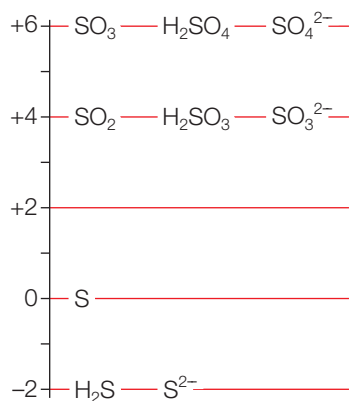

Figure 15.2▲
Most elements in the p block and d block of the periodic table form compounds in which their atoms have different oxidation states. Displaying the compounds of an element on an oxidation state diagram provides a 'map' of its chemistry and shows the different oxidation numbers that it can have. Figure 15.2 shows such a map for sulfur.
- Which sulfur compounds in Figure 15.2 can:
- Draw a chart similar to Figure 15.2 to show the main oxidation states of: